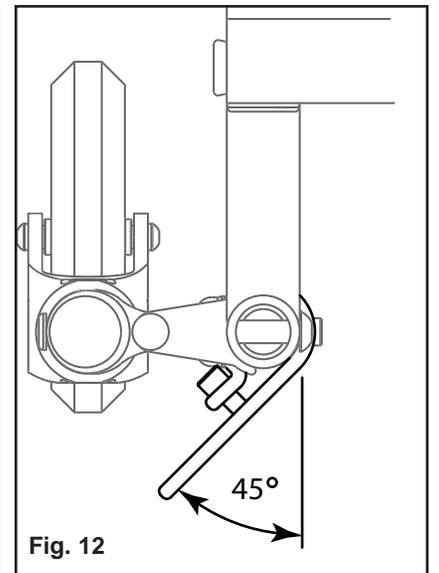

Fig. 12
13) Maintaining a 45 degree angle (Fig.12), install the socket head cap screws (C) and tighten to 10 ft/lbs.